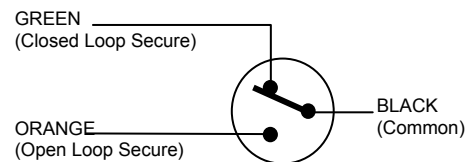

Fig. 2
2. Connect the system wiring to the appropriate leads of the switch. See Fig. 2. Insulate the bare end of any unused wires.